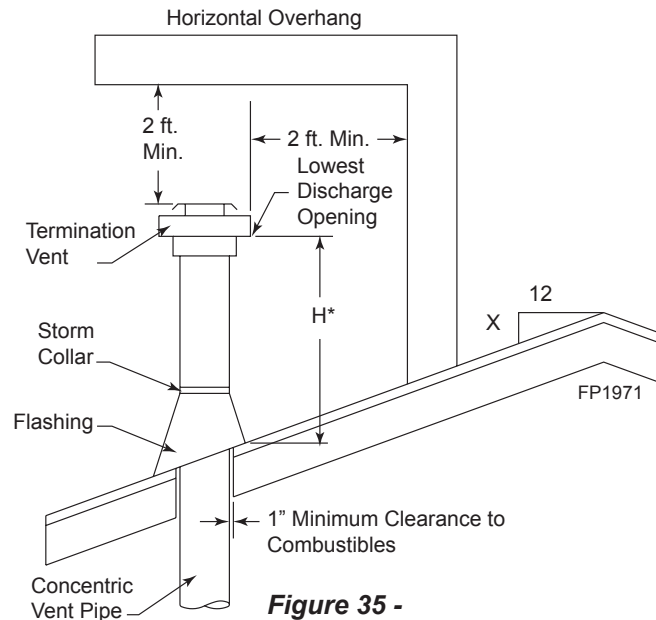

Figure 35 -
- For the minimum height of the vent above the highest point of penetration through the roof refer to Page 24, *Figure 35*.
- Continue to add pipe sections until the height of the vent cap meets the minimum requirements as shown in Figure 35.